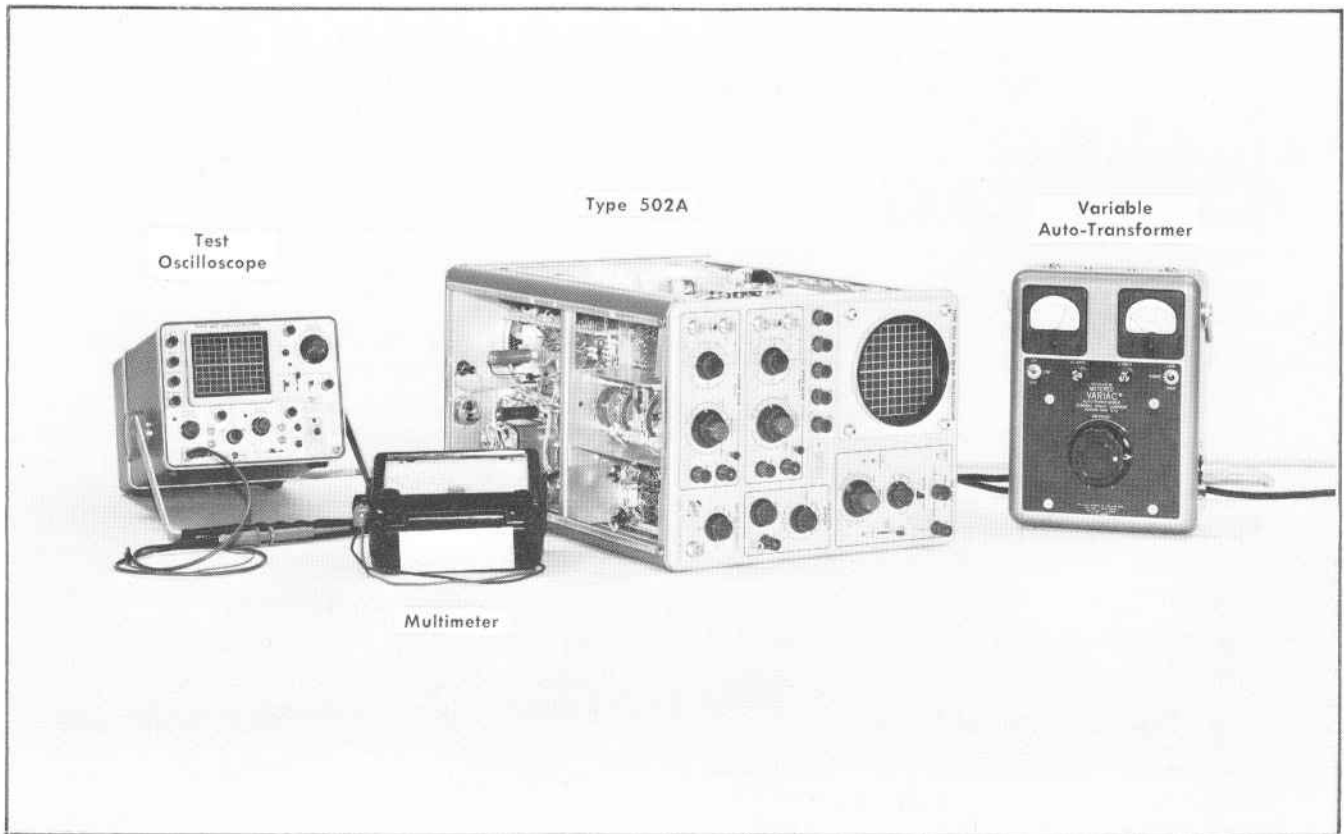

Fig. 6-3. Test equipment setup for the power supply calibration (steps 1 and 2).
4. Set up the equipment as shown in Fig. 6-3. Allow at least 20 minutes warm-up time at 25° C \pm 5° C before making any checks or adjustments.